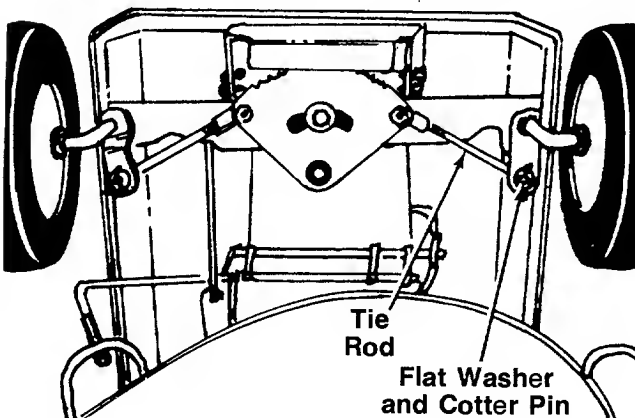

FIGURE 26.
The caster (forward slant of the king pin) and the camber (tilt of the wheels out at the top) require no adjustment. Automotive steering principles have been used to determine the caster and camber on the mower. The front wheels should toe-in  $\frac{1}{8}$  inch. See figure 26. To adjust, follow these steps:
1. Remove the cotter pin and flat washer which hold the tie rod to the axle bracket. See figure 26.